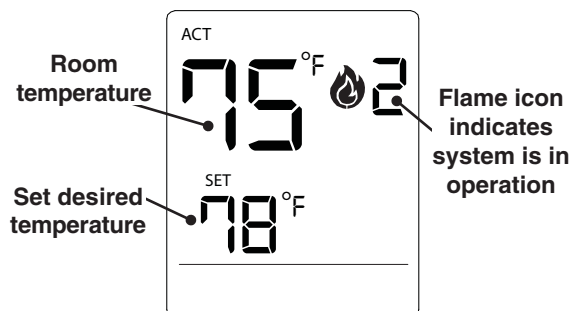

Fig. 41-2 Thermostat detail
- **Thermostat Mode (Fig. 41-2):** In this mode, the fireplace will remain functioning until the room temperature increases 1°F above the set temperature.